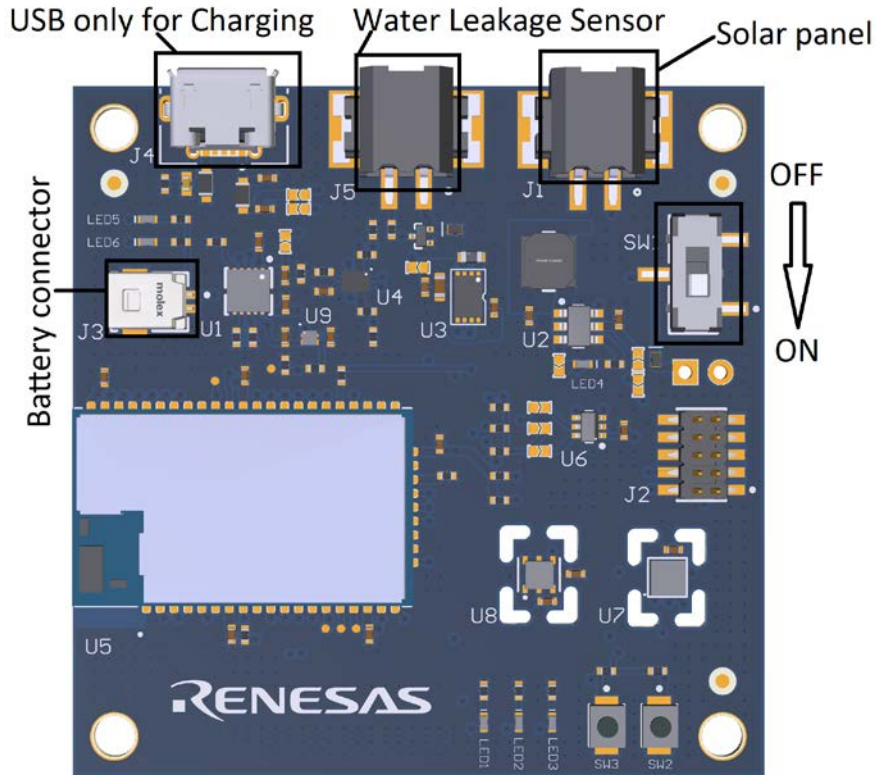

Figure 2: PCB Top View with the default jumper configuration.
- Please check the main connectors that are shown in Figure 2
- Move the Power Supply Switch to ON Position (Figure 2)